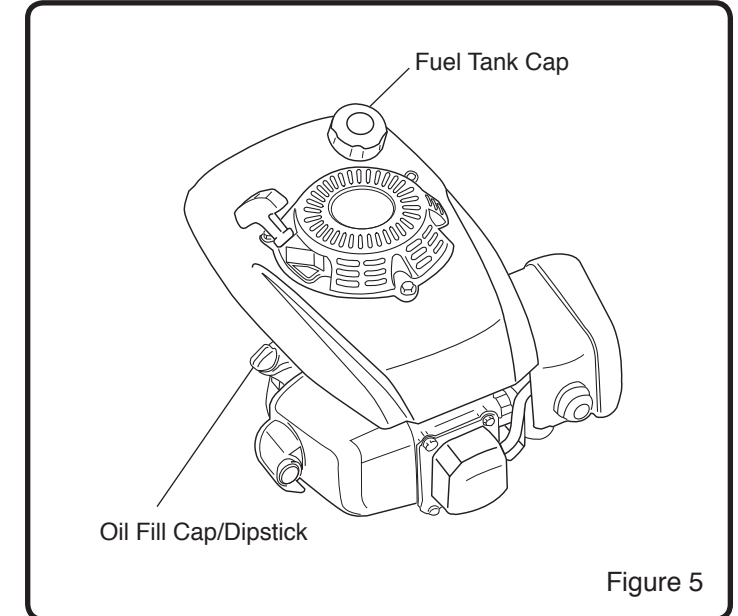

Figure 5
2. Remove Dipstick and wipe clean with cloth. Refer to Figure 5 for location of Dipstick.
1. Clean surface around fuel tank cap to prevent contaminations. Refer to Figure 5 for location of fuel cap.